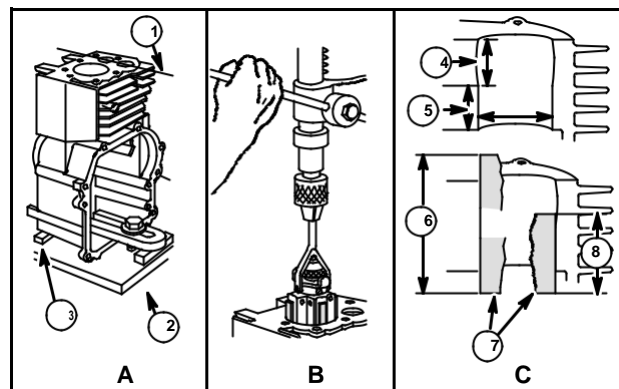

Fig. 2
2. Fasten cylinder to a heavy iron bracket or use honing plate (2), Fig. 2, Illustration A. Some cylinders require shims (3).
3. Use a level to align drill press spindle with bore (1).
6. Slip hone into cylinder, Fig. 2, Illust. B.
7. Connect drive shaft to hone and set stop on drill press so hone can only extend $\frac{3}{4}$ " (19 mm) to 1" (25 mm) from top and bottom of cylinder, Fig. 2, Illust. C. If using a portable drill, cut a wood block to place inside of cylinder as a stop.
4. Start drill and, as hone spins, move it up and down at lower end of cylinder. Fig. 2, Illust. C.